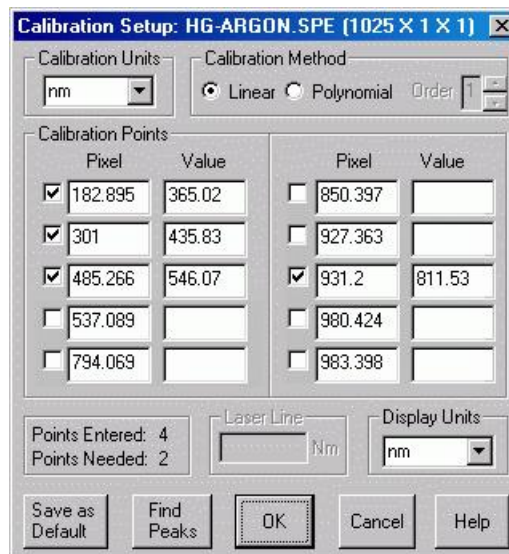

Figure 63. Setup Calibration screen after selecting peaks and entering calibration wavelengths
6. Once the wavelengths have been entered for the selected peaks, check the selection box to the left of the Pixel box for each peak selected. (Figure 63). A checkmark in the box indicates that the peak is selected. *Note that wavelength values must be entered for these peaks before the selection box can be checked.*